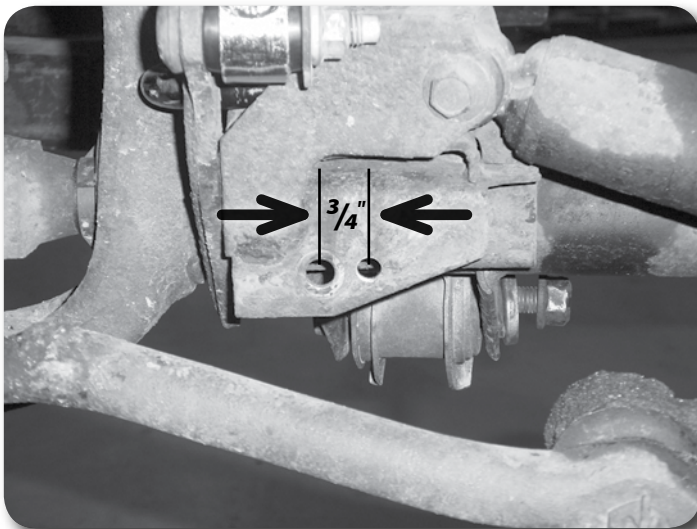

Figure 7
21. Locate the factory track bar mount on the passenger's side of the axle. Measure from the center of the original track bar mounting hole $\frac{3}{4}$ " toward the driver's side and mark. Drill a $\frac{13}{32}$ " hole at the mark through the front and back faces of the track bar mount (Figure 7). This will be the new mounting point for the track bar. Do not install the track bar at this time.